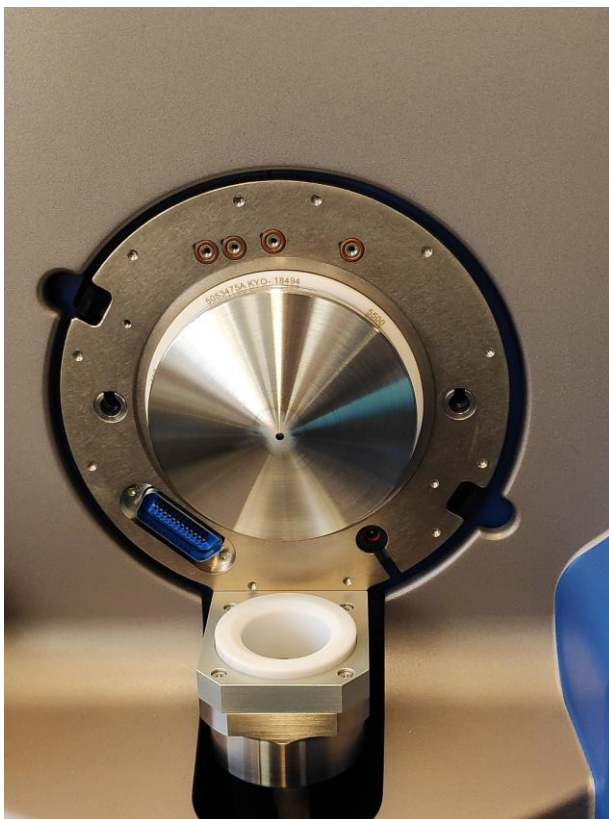

Figure 2: SCIEX API interface with ion source housing removed and ready for SICRIT® Interface installation.
- Rotate the two levers on the ion source housing and take it off. After successful removal, the MS interface should look as shown in Figure 2.